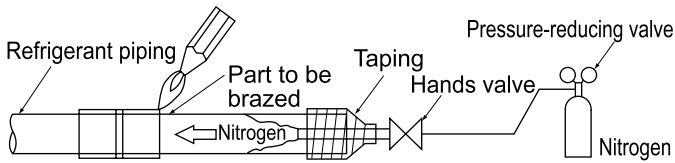

Fig. 25
- Nitrogen should be set to 0.02MPa (0.2kg/cm²) with a pressure-reducing valve if brazing while inserting nitrogen into the piping. (Refer to Fig. 25)